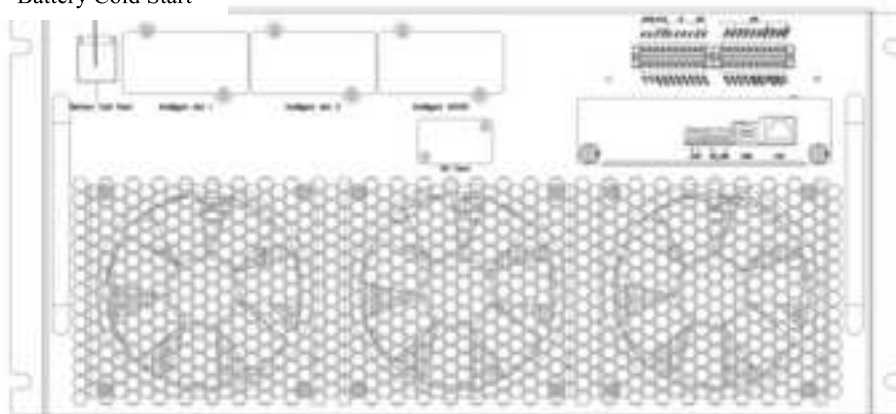

Figure 5-1 The position of the battery cold start button on cabinet
2. Press the red battery cold start button for more than 5 seconds, the system is then powered by the battery, as shown in Figure 5-1;